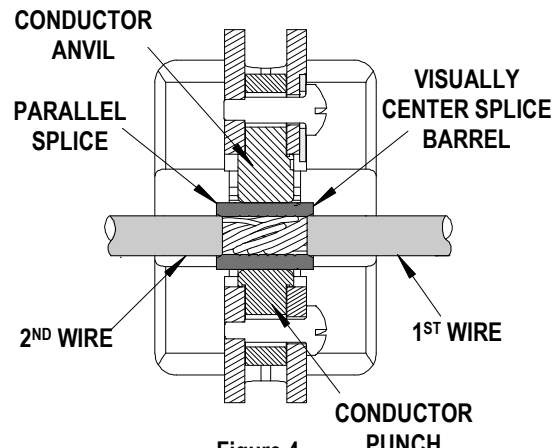

Figure 4
6. When crimping parallel splices insert the first wire into one end of splice then insert the second wire into the opposite end of the parallel splice. This procedure will crimp both wires at the same time. Make sure the wires are fully seated into the parallel splice. Position the splice and the wires in the nest with conductor crimp on the conductor barrel of the splice The splice should be approximately centered inside the tooling nests. See Figure 4. Cycle the tool.